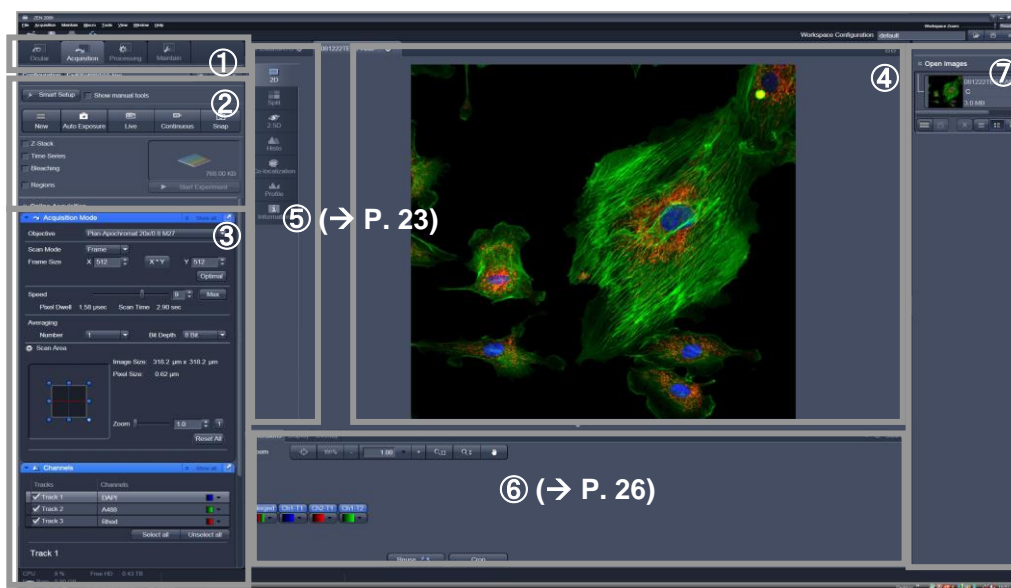

Fig.3 ZEN main application window after starting up
Left Tool Area (Fig.3-①,②,③)
- ① Main Tabs ② Action Tabs ③ Tool Group
Center Screen Area (Fig.3 - ④,⑤,⑥)